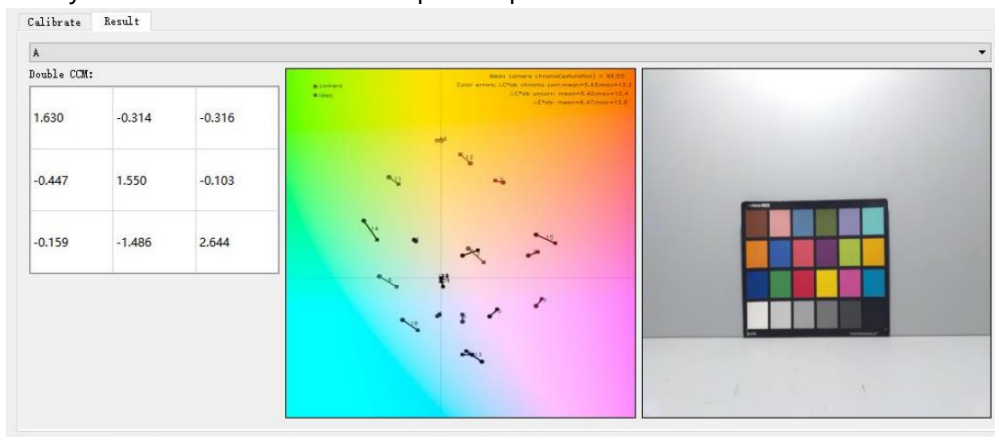

Figure 4-5-2-5
12. If  $\Delta E$  is too large, the raw image may be too bright. You can right-click the ColorChecker image on the right side of Figure 4-5-2-5, click Save Current, save the image, and check whether each color patch is overexposed or a certain channel is saturated (CCM calibration after applying the Gamma curve may cause calibration patches saturation).